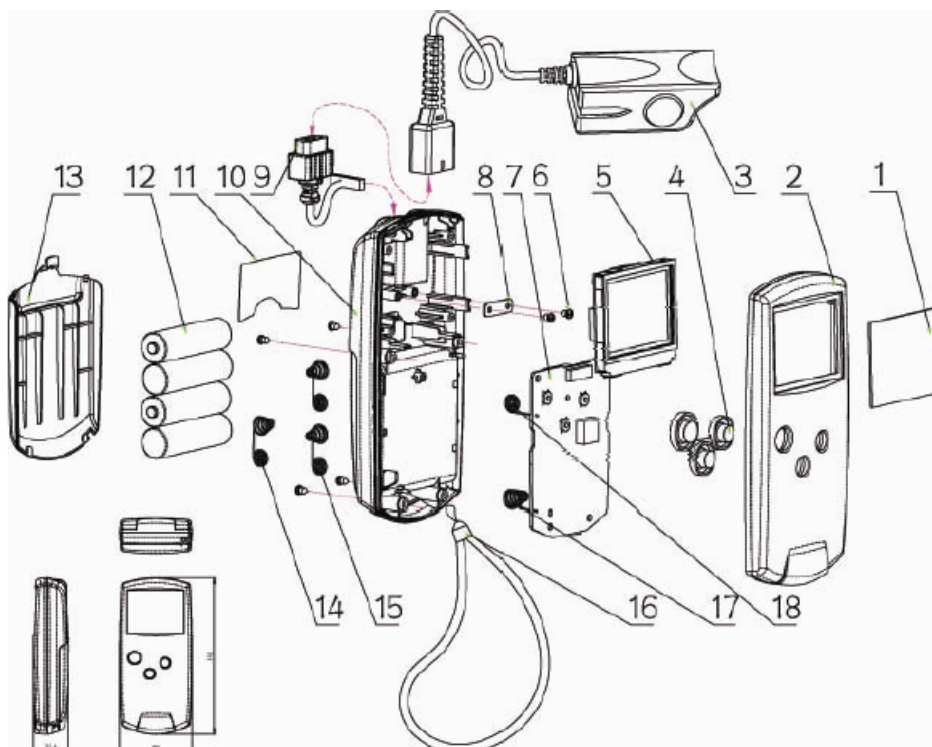

Fig 4-1 Pulse Oximeter Explosive diagram (0850-30-30752)
3. Take the battery cover off (as shown in Fig4-1) .